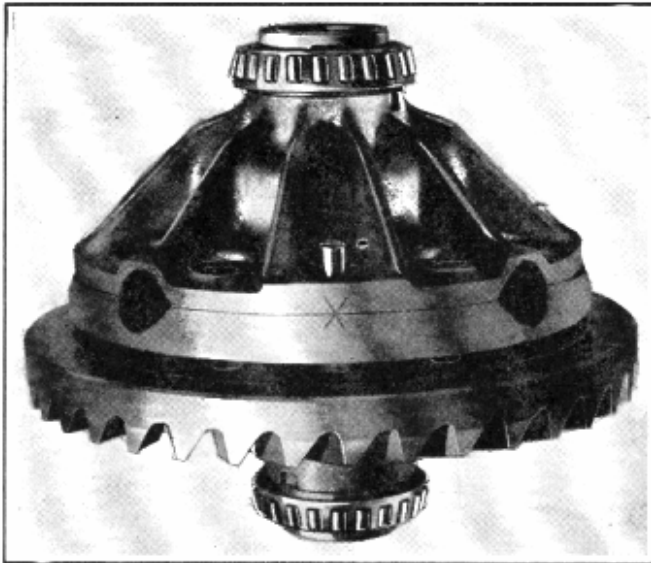

Fig. 14—Differential Case Marking
2. Assemble the right side of the case to the left side, being sure to line up the marks on the case halves, Fig. 14.